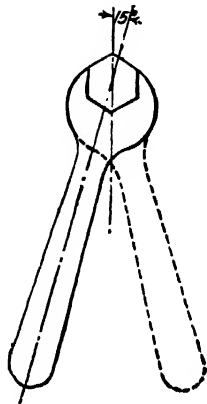

Fig. 4-9.
6. Oftentimes bolt heads or nuts are so placed in a machine that a movement of the wrench through 90 deg. (for a square nut) or through 60 deg. (for a hexagonal nut) is impossible owing to obstructions. This difficulty is overcome by using for the square nut a $22\frac{1}{2}$ -deg. angle wrench and for a hexagonal nut a 15-deg. angle wrench. By turning the wrench over each time it is applied the nut may be turned completely around when the swing of the handle is limited to substantially half that required for a straight wrench. This is illustrated in Fig. 4-9.